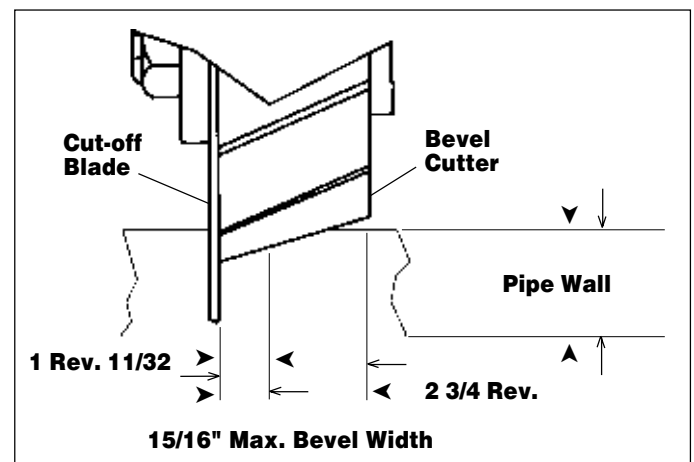

FIG. 6 Beveling Adjustment
*Exception to this would be if the bevel cutter was being used for plastic, then the cutter would be engaged until the bevel cutter began cutting. Turn the feed knob $2\frac{3}{4}$ turns for a full width bevel. Full engagement produces a $\frac{15}{16}$ " bevel. (Fig. 6)